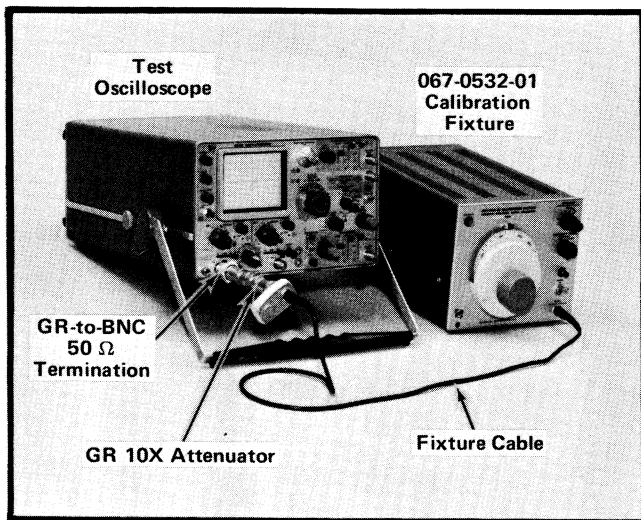

Fig. 4-5. Equipment setup for step 4.
a. Equipment setup is shown in Fig. 4-5.